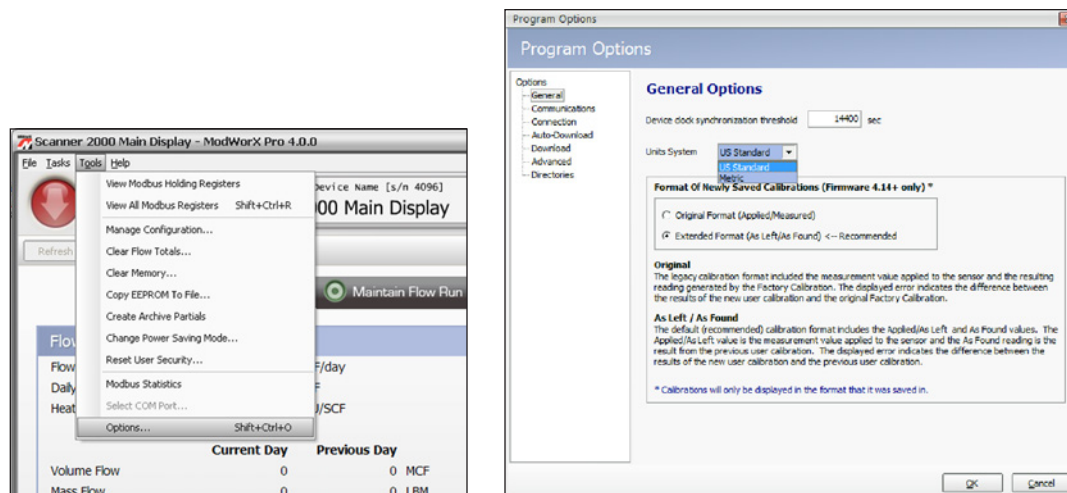

Figure A.17
1. Click **Tools>Options** in the task bar (Figure A.17, page A-12).